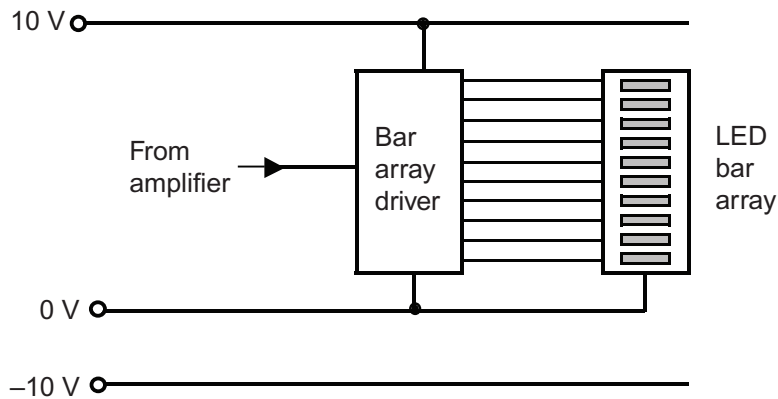

Fig. 2(b)
- (b) The output voltage V_o from the voltage divider in **Fig. 2(a)** is to be connected to a 10-segment LED bar array and driver as shown **Fig. 2(b)**, where each segment is to represent 1°C . In order for this to happen, the output voltage V_o from the voltage divider must be amplified by a factor of 40.